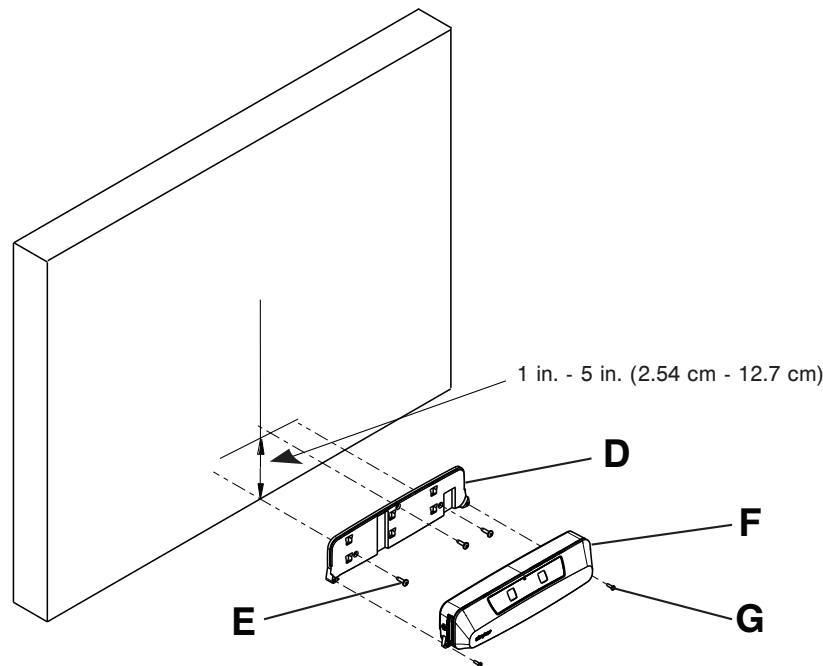

Figure 3 – Mounting specifications
5. Using a tape measure and pencil, mark the intended center of the bed location (vertical line) (Figure 3).
6. Center the mounting plate on the vertical line made in step 5 and mount the bottom of the mounting plate max 1 in. (2.54 cm) off the floor (Figure 3).
7. Using a level on the bottom of the mounting plate (D), make sure that the bottom of the mounting plate (D) is level when you position the mounting plate (D) on the reference marks made in steps 5 and 6 (Figure 3).
8. Use a pencil to mark the three screw holes of the mounting plate (D).
9. Using the appropriate tool with the hospital supplied fasteners (E, not included), secure the mounting plate (D) to the wall (Figure 3).
10. Attach the Secure Connect (F) to the mounting plate (D) (Figure 3).
11. Using a #2 Phillips screwdriver, secure the Secure Connect (F) to the mounting plate (D) with the two supplied screws (700001126359) (G) (Figure 3).